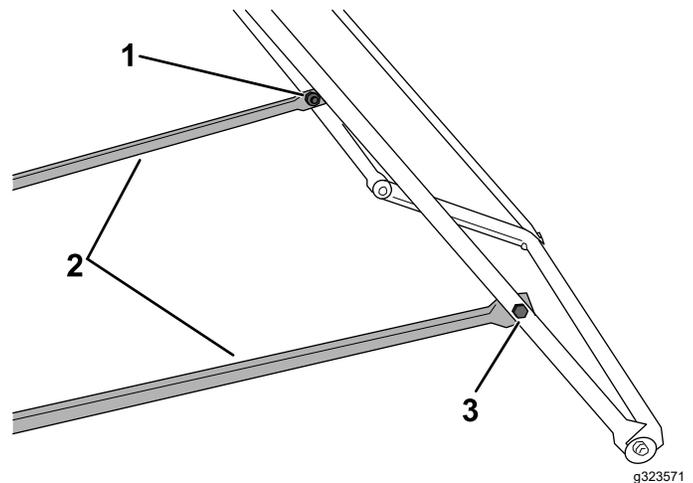

Figure 8
- Install the 2 rear posts to the side frame tubes (Figure 8).